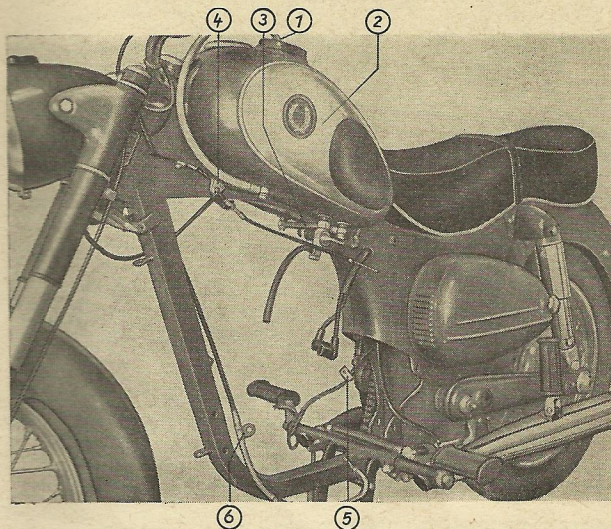

Fig. 1: Chassis after removal of engine
8. Loosen mounting screw of flexible speedometer drive and remove it together with clamp of generator cables (fig. 1/5), pull out flexible speedometer drive.
11. Undo the three cable straps holding Bowden cables and oil hose together, unscrew connecting screw of oil hose from engine block and pull it out, put open hose end quickly into filling hole of oil tank (fig. 1/1).
until holding washers release the tongues of the tank, so that the tank can be raised (fig. 1/2). Fix tank in raised position by pushing under it a hammer or wooden wedge that rests on the hand wheel of the steering damper. The connecting hose (fig. 1/3) permits this movement, so there is no need of draining off the fuel.
However, the engine is more easily accessible if the fuel tank is removed completely. For this purpose, drain off fuel and remove connecting hose (fig. 1/3).
14. Detach Bowden cable for oil pump from lever on upper frame support (fig. 1/4).
15. Unscrew lock nut of engine mounting screw (top, front), remove clamp of guide tube for clutch cable (fig. 1/6), pull guide tube out of crankcase.